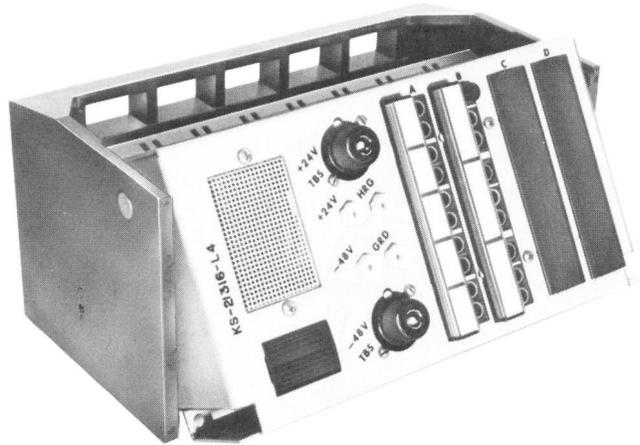

Fig. 7—Test/Talk Panel in Opened Position
- (2) Pivot the panel face upward from the bottom, exposing the components inside. See Fig. 7.